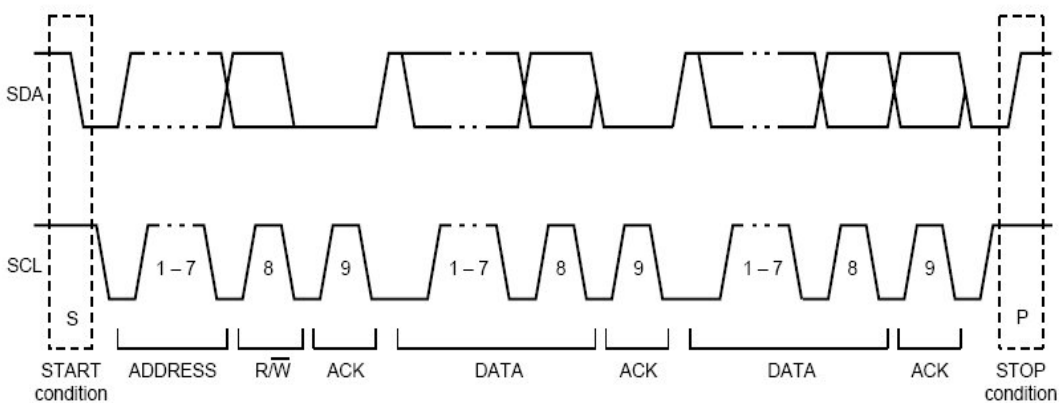

Figure 5: I²C Interface protocol definition
The I2C interface definition has special bus signal conditions. Figure 5 shows start (S), stop (P) and binary data conditions. At start condition SCL is high and SDA has a falling edge. Then the slave address is sent. After the 7 address bits the direction control bit R/W selects read or write operation. When a slave device recognizes it is being addressed, it should acknowledge by pulling SDA low in the ninth SCL (ACK) cycle.